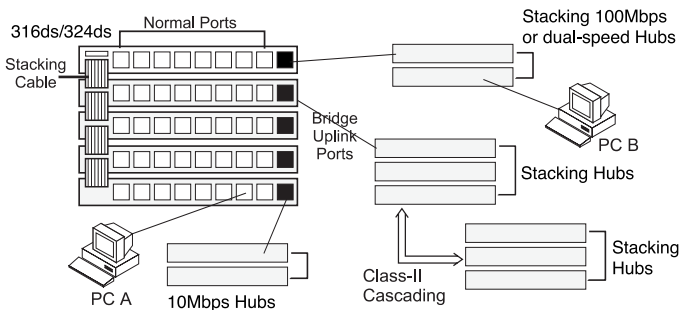

Figure 3-7 Connect to Ethernet Hubs.
- If multiple ALH-316ds/324ds are stacked together, users can connect to hubs by the bridge uplink port in master/slave hubs. , as shown in Figure 3-7.